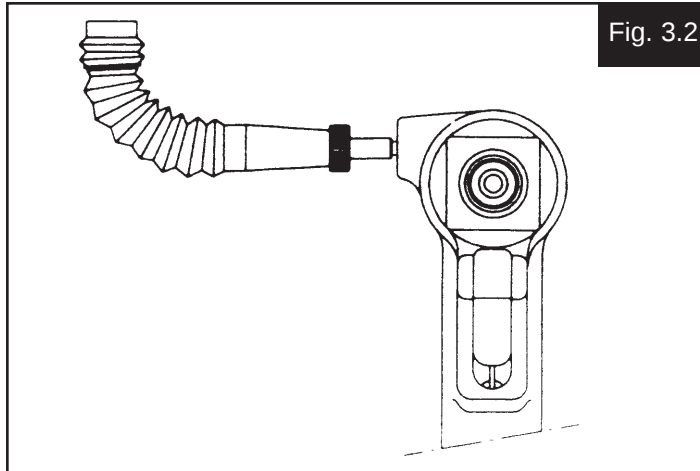

Fig. 3.2
- Stand tool upright on bench. While triggering tool slowly (20 - 30 cycles), bend fill bottle at right angles to tool- - see FIGURE 3.2. Air bubbles will emerge from tool. When bubbles stop, cycling may be discontinued.